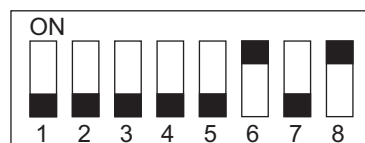

Fig. 3-110
(3) Adjust the rear jogging plate to the home position.
- Set SW1 on the finisher controller PC board as shown in  P.3-85 "Fig. 3-110".